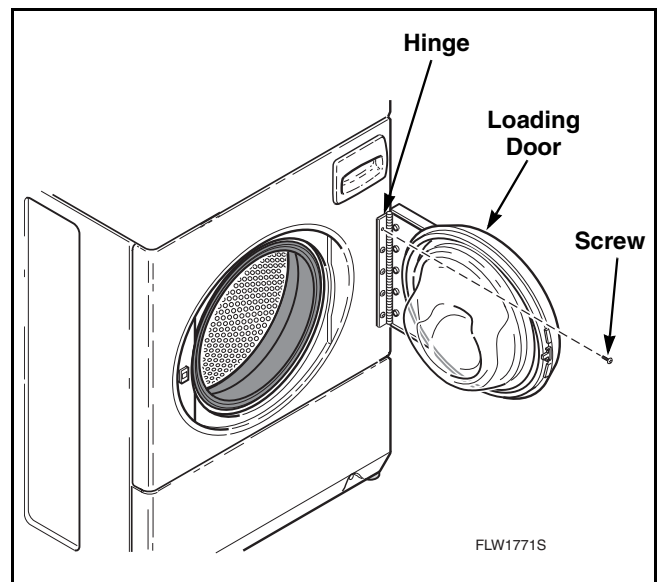

Figure 5
- b. The loading door can be adjusted up or down somewhat by loosening screws holding door hinge to front panel, then raise or lower door before retightening screws. Refer to *Figure 5*.